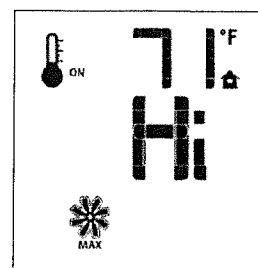

Figure 7.15 Fan Speed.
- Use the Up/Down Arrow Keys to turn ON, OFF, or adjust the fan speed. Fig. 7.15. A single "beep" will confirm reception of the command. After a 5 minute interval, the fan will power up to its highest speed and then modulate down to the established fan speed setting. The fan will continue to operate for 12 minutes after the burner is turned off. Manual speed control is not available when the SMART Thermostat is ON.